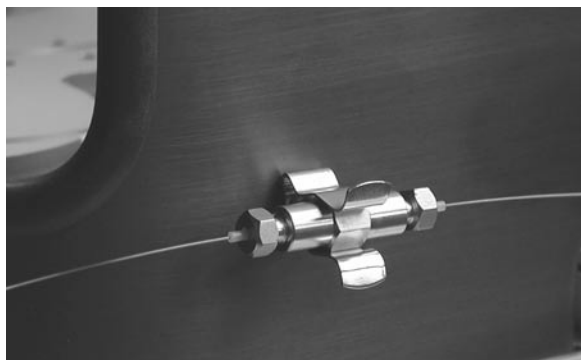

Figure 4.14: Grounding union in place
- 4) Insert the sheathed tubing and fitting into the ground union receptacle. Finger-tighten the fitting by turning clockwise, making sure the tubing is firmly seated into the bottom of the fitting. (Figure 4.14)